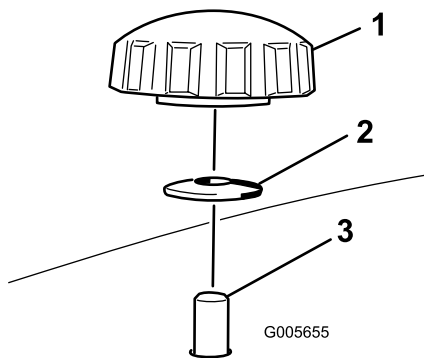
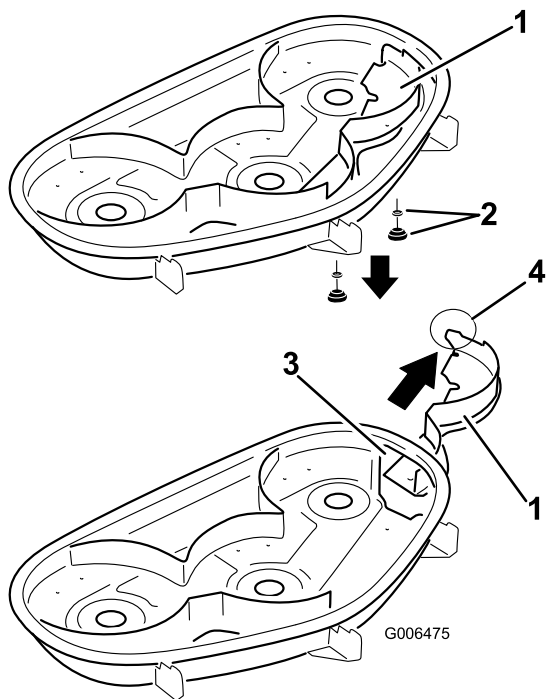

Figure 19
Figure 20
4. Remove the 2 knobs and curved washers that secure the right baffle to the mower as shown in Figure 19.
5. Remove the right baffle and lower the grass deflector over the discharge opening as shown in Figure 20 and Figure 19.
4. Slide the right baffle through the discharge opening and secure it using 2 knobs and curved washers (cupped side facing the mower) as shown in Figure 19 and Figure 20.